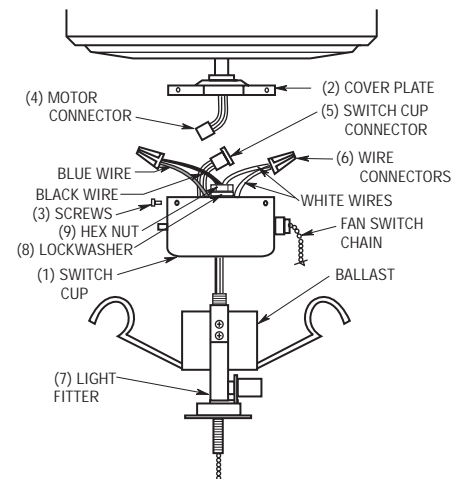

Figure 2
6. Insert the black and white wires from the light fitter(7) through the center hole in the switch cup (Figure 2) and thread the switch cup tightly onto the light fitter. Hold wires taut while installing switch cup to prevent the wires from twisting.
7. Insert the black and white wires through the lockwasher(8) and hex nut(9) supplied. Firmly tighten the hex nut to secure the light kit fitter to the switch cup.
8. Connect the white wire from the switch cup to the white wire of the light fitter (Figure 2). Connect the blue wire from the switch cup to the black wire of the light fitter. Use listed wire connectors (previously removed in step 5) to make connections (Figures 2 and 3).
9. Carefully tuck all wires and splices into the switch cup(1). (Figure 2.)
10. Connect the motor connector(4) to the switch cup connector(5).
- Position the cup/light fitter(1)(7) on the cover plate(2) and install the three screws(3) that were previously removed in step 2 and tighten securely.
- Position the bulb retainer between the fitter bracket and the bottom of the ballast (Figure 2). Carefully snap the retainer into the groove in the ballast. Make sure the retainer is securely installed in the groove.